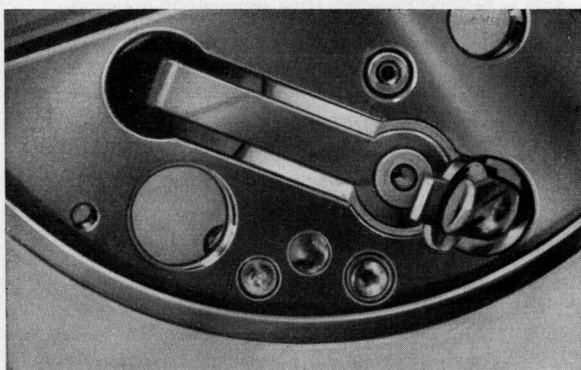

Fig. 9
- (6.1.14) Release the contact-retaining screw (dial side) and swing the contact with the clamping piece and the tongue through the bore in the work base plate, avoiding any force. Watchmakers are advised to avoid releasing the screw at the clamping piece. If this routine is observed the skilled repairer will be able to adjust the contact within minor limits when assembling the work (see Figs. 9 and 10).